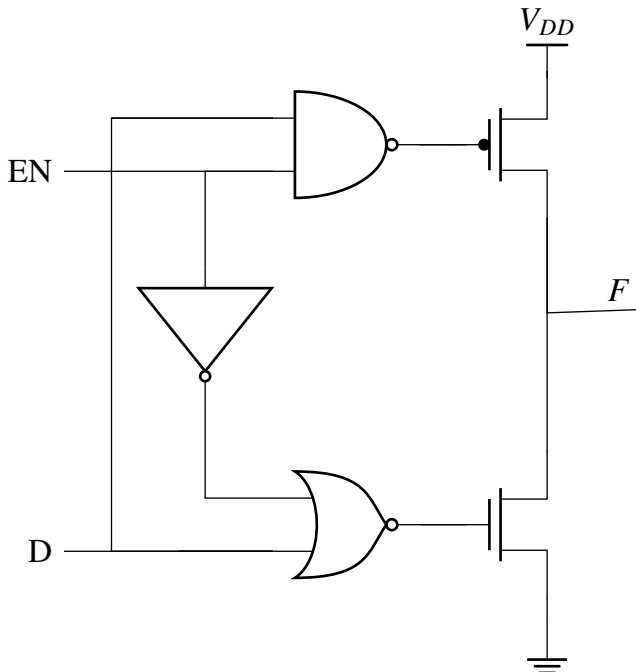

Fig. 3.24: Circuit Diagram
41. In the circuit shown in Fig. 3.24, what are the values of  $F$  for  $EN = 0$  and  $EN = 1$ , respectively? (GATE-EC2019,14)